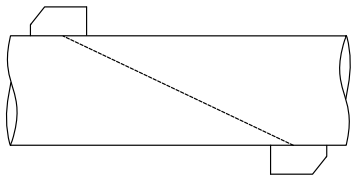

Fig. 3.6: Diagonal arrangement
The transducers are mounted on the opposite sides of the pipe (see Fig. 3.6).
- odd if the measurement is conducted in the diagonal arrangement (see Fig. 3.6)